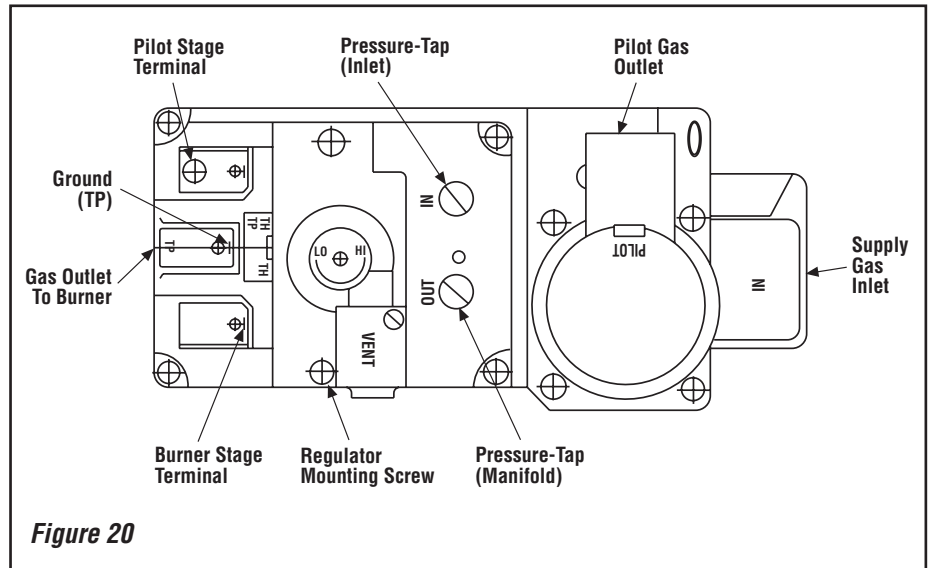

Figure 20
Step 4. Dexen Electronic Valves - See **Figure 20** and the instructions provided with the kit. Remove and discard the two pressure regulator mounting screws. Remove the pressure regulator and diaphragm. Discard all removed components. **Ensure the rubber gasket installed on the back of the replacement pressure regulator is properly positioned.** Install the new pressure regulator using the new screws supplied with the kit. Tighten screws to 25 in. lb. torque.